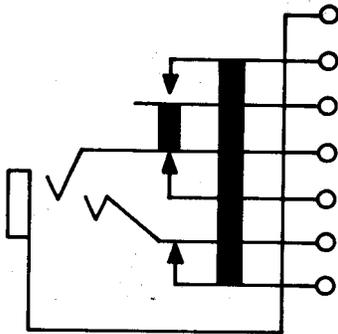

Fig. 17—240-Type Jack
2.17 240A, C, AM and CM: These single-mounted jacks (Fig. 17) are used with 150, 184, 213, 262, 310, 320, 331, 338, and 349 plugs. These jacks are heavily insulated. These jacks are mounted with the springs in a vertical plane.